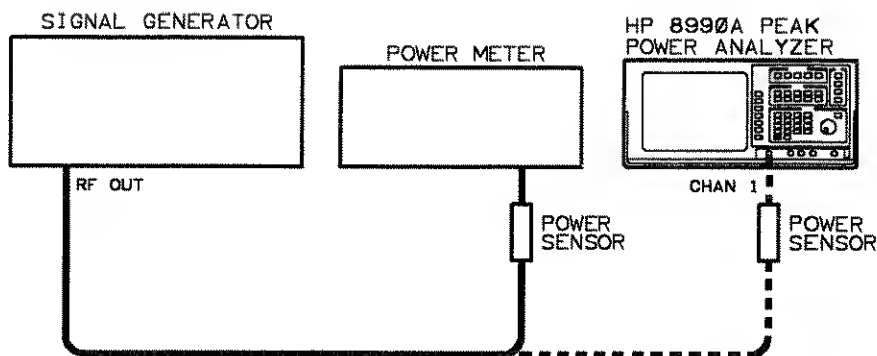

Figure 4-3. Checking Power Measurement Range Equipment Setup
1. Connect the average power sensor (HP 8485D or equivalent) to the average power meter and signal generator RF output as shown in Figure 4-3.
3. Disconnect the average power sensor from the signal generator and connect the peak power sensor to it. Refer to Figure 4-3.